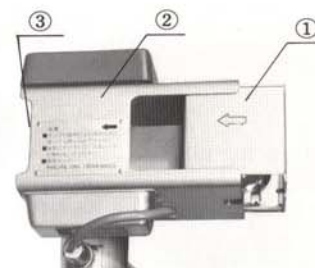

Fig. 3
- c) Carefully insert the lamp holder unit ① into the lamp housing ② until it comes in contact with the contact surface ③.
- At this position, the lamp holder unit is electrically connected and in the correct position for optical alignment. (Fig. 3)